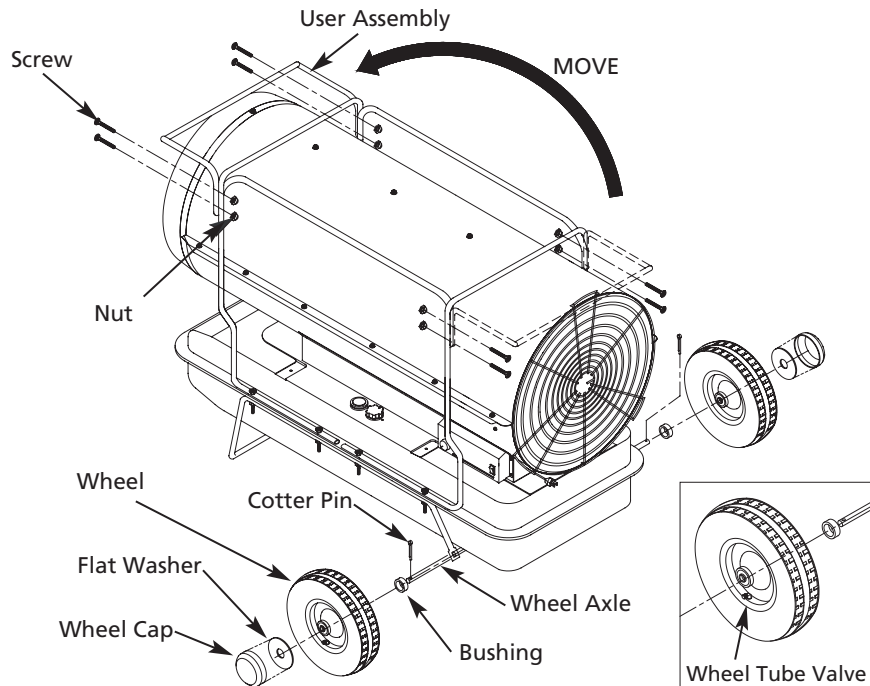

Figure 5 - Wheel and Handle Assembly
NOTE: When installing wheels, tube valve should face out from support frame (Figure 5).
5. Move the removed handle front to the handle on the front side as Figure 5, and then tighten 4 screws after matching handle and handle front.